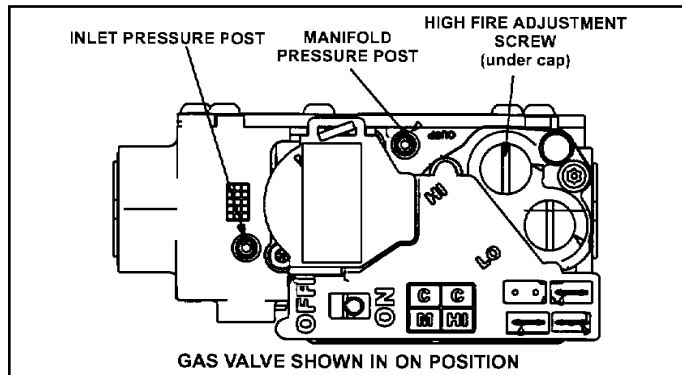

Figure 17.
The valve (Figure 17) is internally redundant to assure safety shut-off. If the gas valve must be replaced, the same type valve must be used.
6. Move gas valve switch to OFF. See Figure 17.
8. Move gas valve switch to ON. See Figure 17.
An inlet post located on the gas valve provides access to the supply pressure. See Figure 17. Back out the 3/32 hex screw one turn, connect a piece of 5/16 tubing and connect to a manometer to measure supply pressure. See Table 20 for supply line pressure.
1. Connect test gauge to manifold pressure post (Figure 17) on gas valve.
4. If necessary, make adjustments. Figure 17 shows location of high fire and low fire adjustment screw.